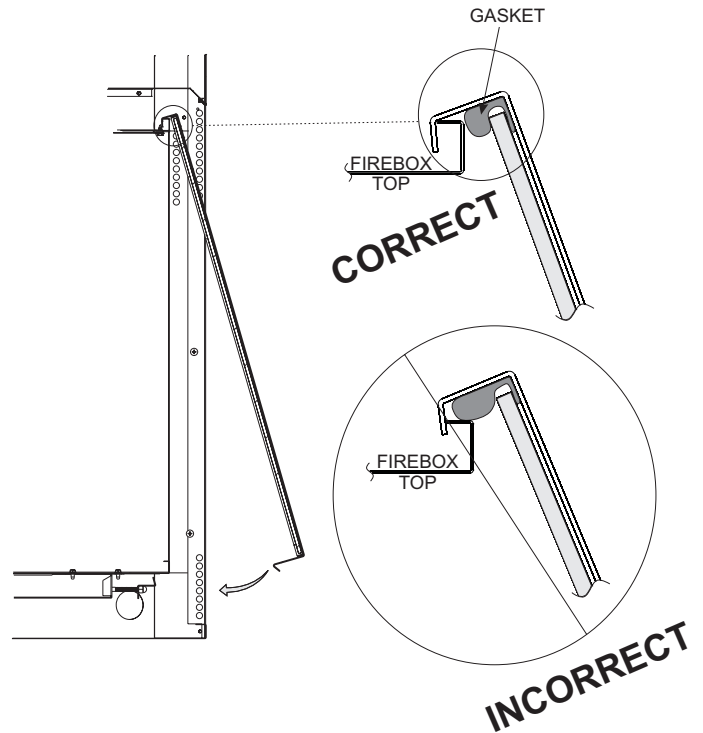

Figure 78
7. Reinstall glass front by hanging the top of the frame on top of the firebox, making sure the gasket at the top is positioned in front of the firebox flange and not on top **See Figure 78.**
1. When installing the glass door, make sure that the door top flange is hooked over the firebox top flange as illustrated in the "Correct" view in Figure 78.
Important: Do not allow the gasket across the top of the door to roll up on top of the firebox flange as shown in "Incorrect" view in Figure 78.
- Check all latches or other door retention components for proper operation, tension, and relief mechanisms are free from obstructions. **See Figure 78.**